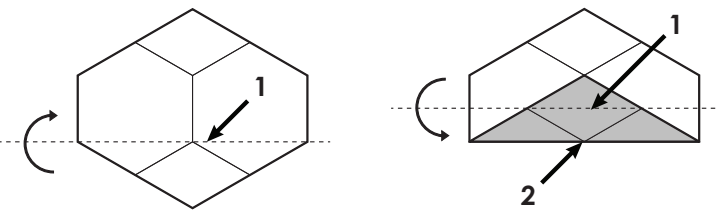

Figure 2.
4. Spread your net assembly on a flat surface free of large rocks, sharp objects and debris and fold the outermost edge of net assembly 3/4 of the way (Figure 2, Item 1) across the net assembly.